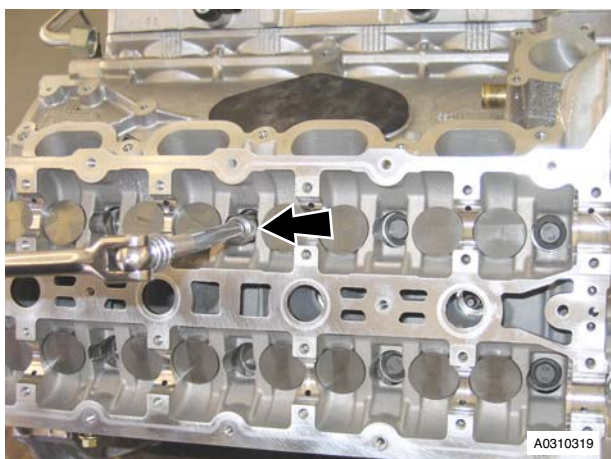

Figure 3
11. Remove bolts (x10), evenly and in stages securing RH/LH cylinder head to cylinder block (see Figure 3).